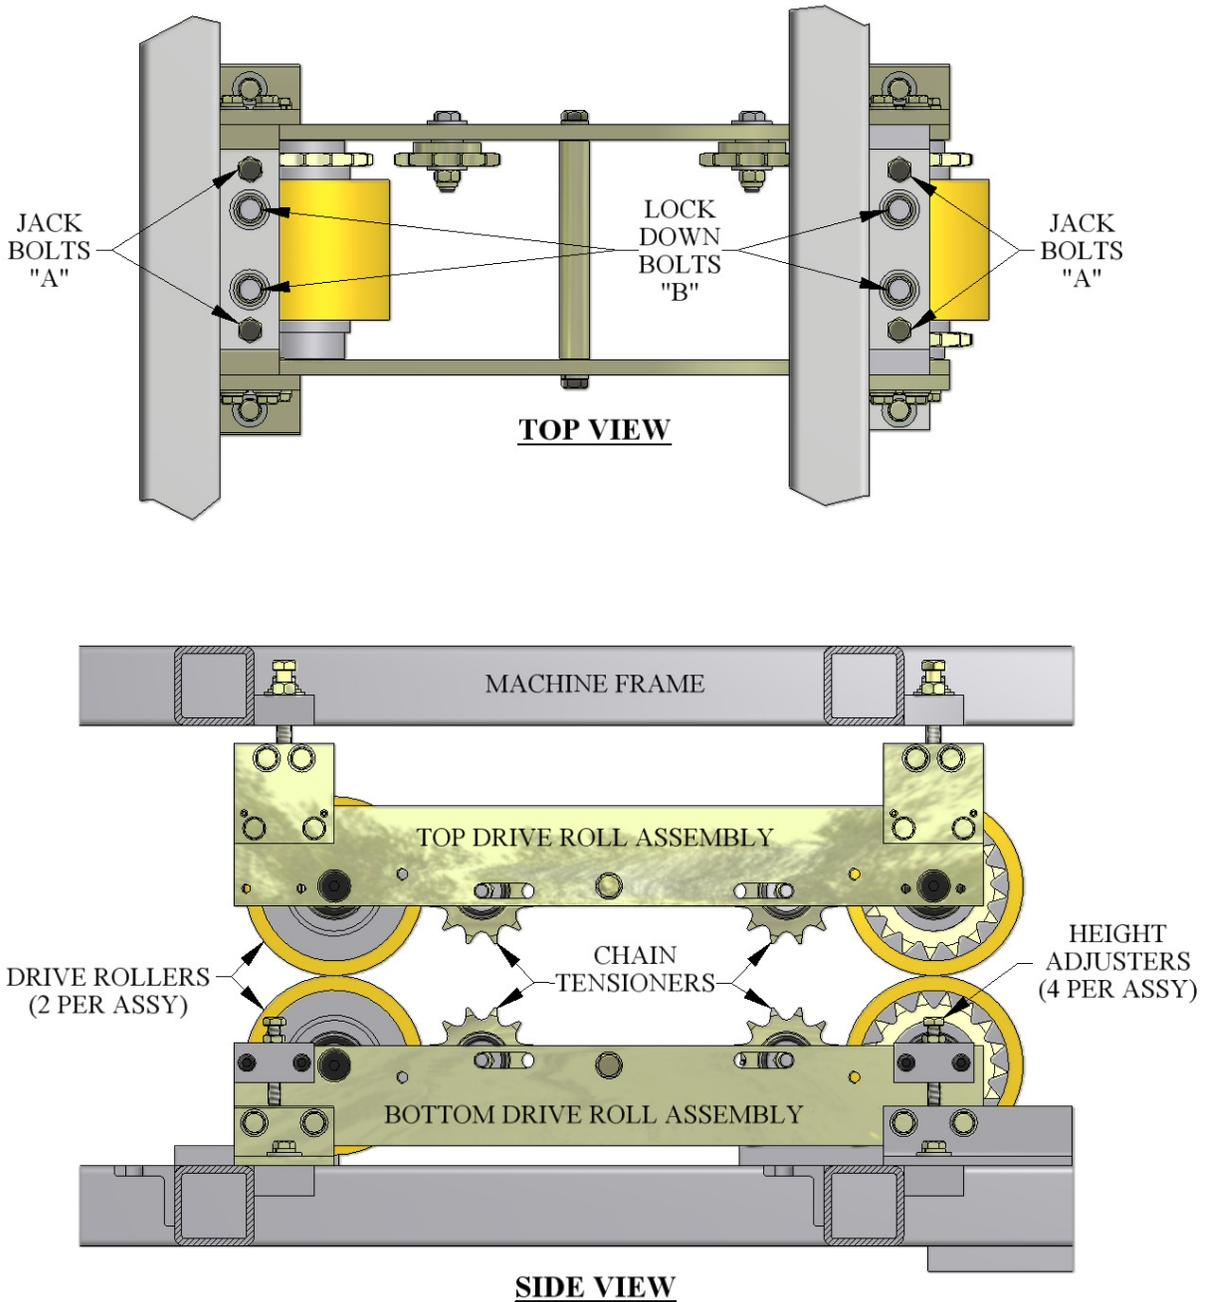
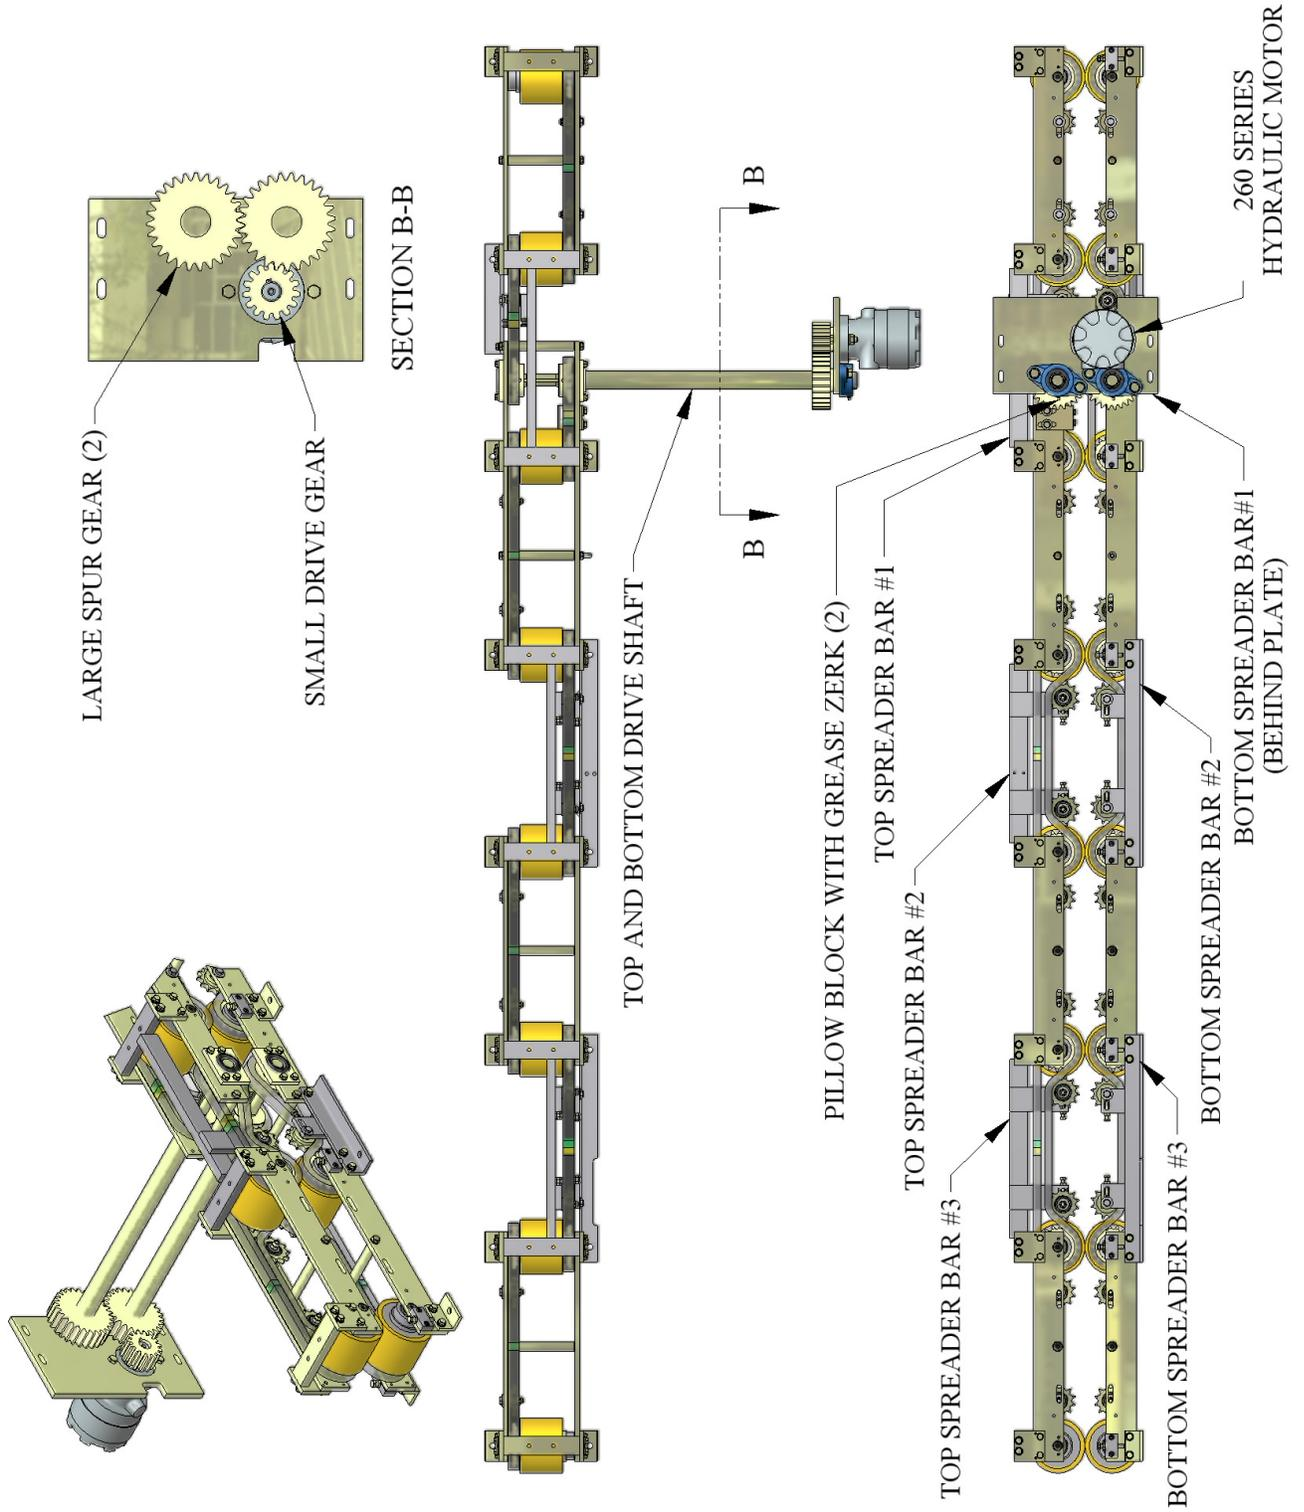
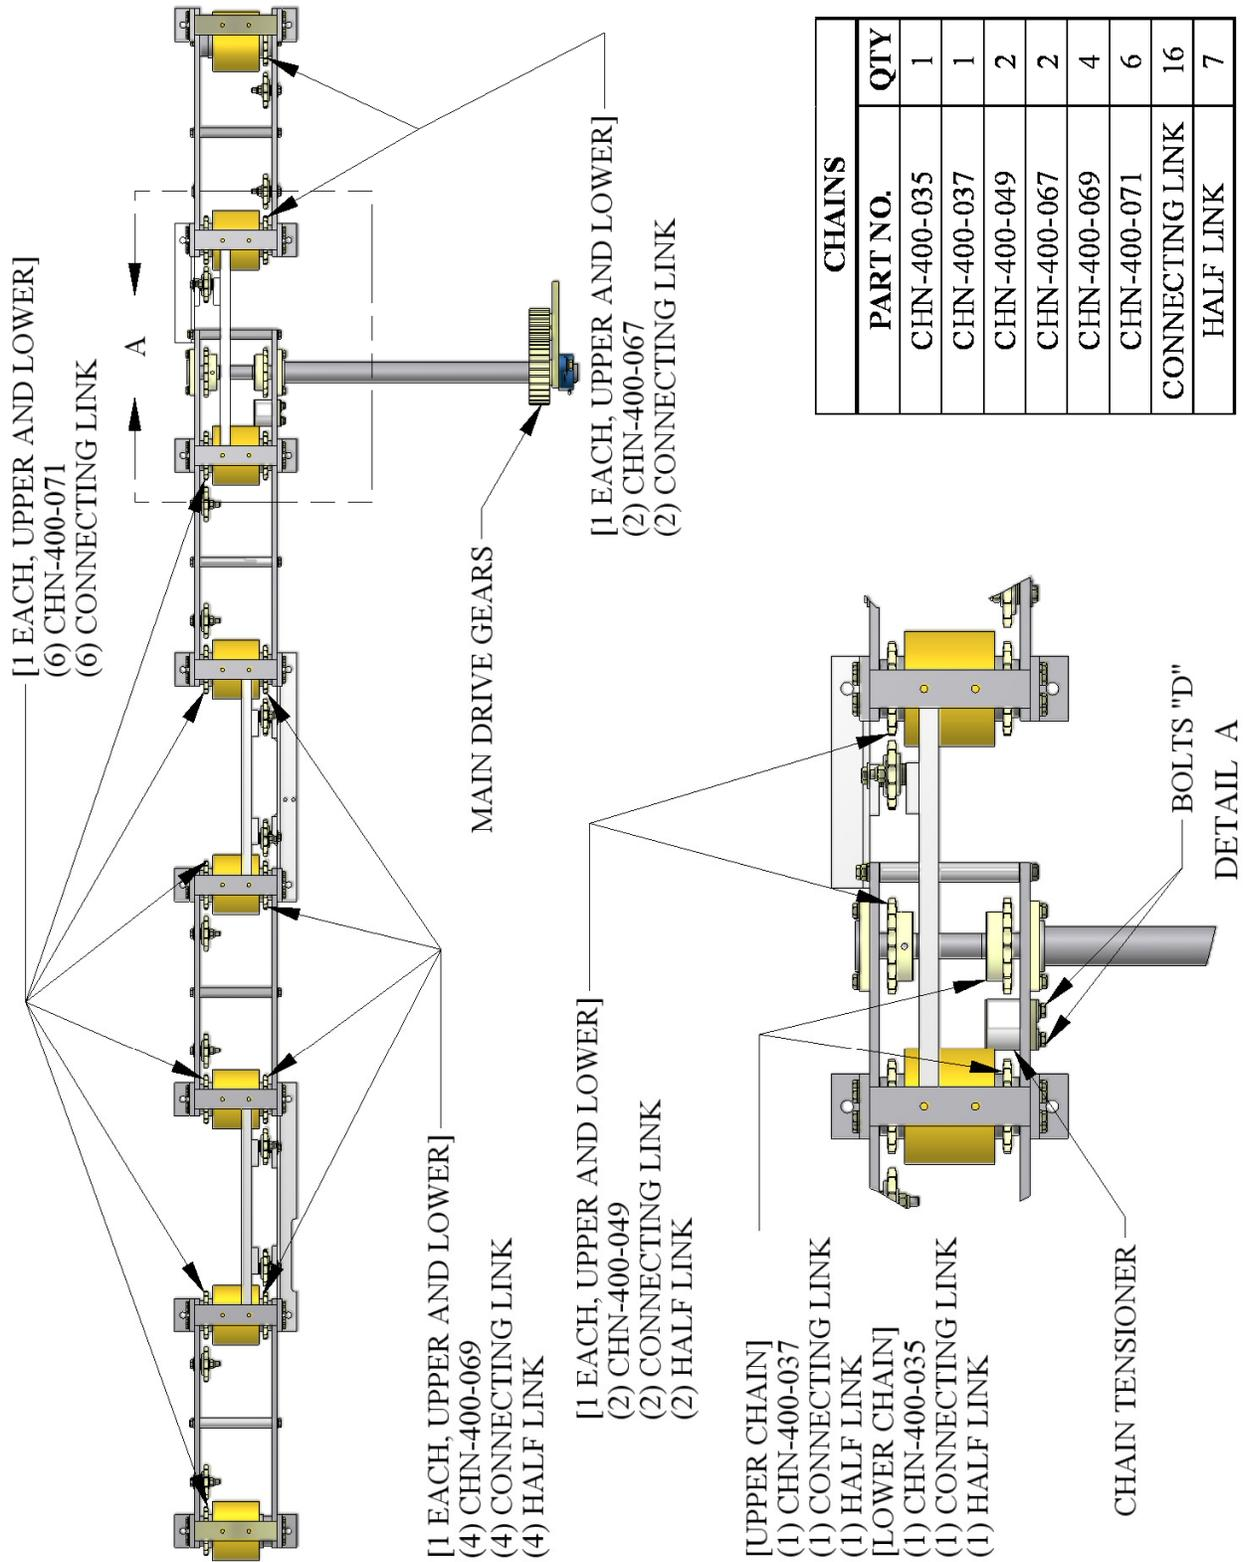

Figure 16: Drive Roll Assembly View
Figure 17: Gears and Shafts
Figure 18: Chains Upper and Lower
(Figure 16, Figure 17 & Figure 18)
- C. The third is located on the Top #1 Spreader Bar between the sprocket and drive roller. (see detail 'A' Figure 18) Loosen two "D" bolts enough so that the tensioner assembly can move up toward the chain until snug. Re-tighten the two "D" bolts.
3. The chains used in this system are #50 Roller Chain. See Figure 18 for chain locations and lengths if chain replacement is necessary.